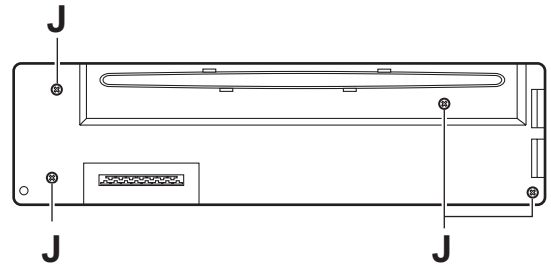

Fig.8
### 3.1.8 Removing the switch board (See Figs.8 to 10)
- Remove the four screws **J** on the back side of the front panel assembly. (See Fig.8.)